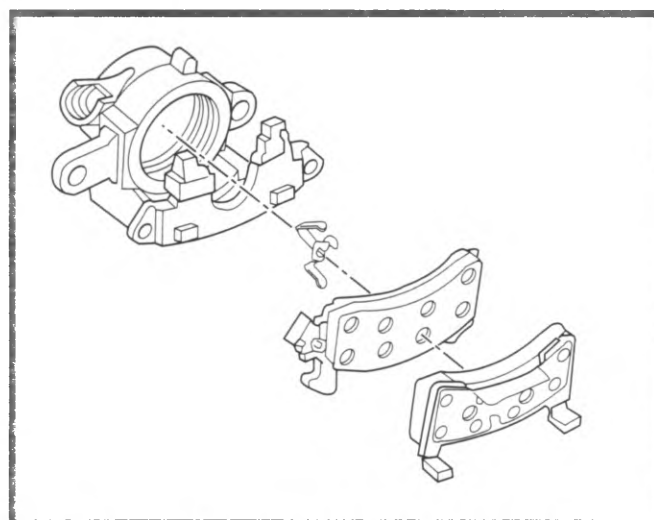

Figure 6-10, Remove Inboard Lining
4. Remove the inboard lining from the caliper (figure 6-10).